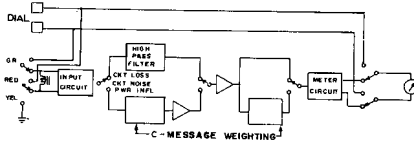

FIGURE 2. Block Diagram
**3.03** Figure 2 shows a block diagram of the T-136B test set.